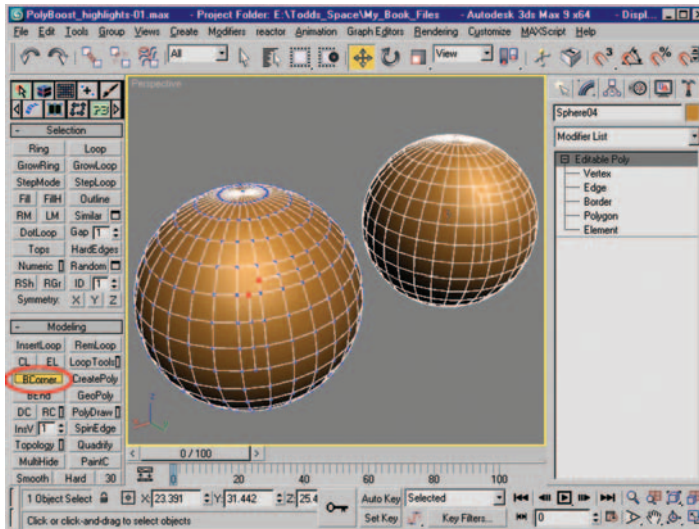

Figure 12.9 Vertex selection (left) and resulting mesh after using the BCorner function on the vertices (right).
11. Select the two vertices seen in Figure 12.9 (left) and use the BCorner button to end up with the result seen in Figure 12.9 (right). BCorner creates a Quad-based corner when used on similar edge configurations.